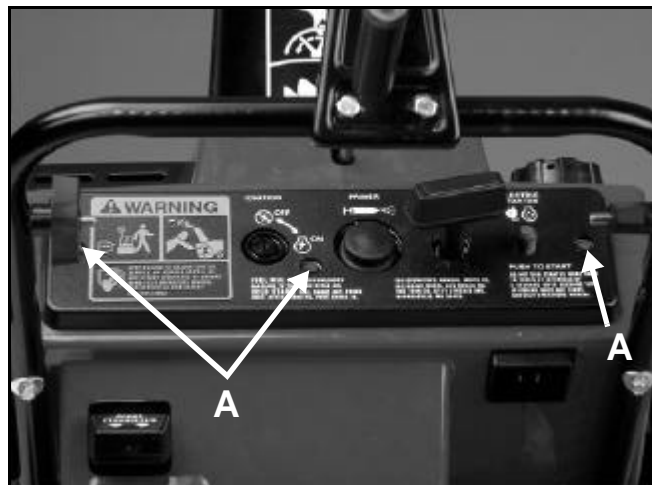

Figure 142
2. Remove the three screws holding the control panel nameplate and let the control panel nameplate hang by the starter rope (Figure 142).